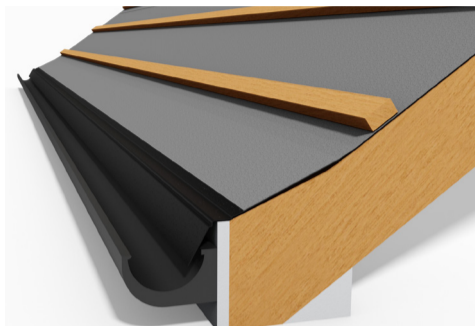

fig 1: Eaves detail
2. Lay Danelaw LR120TT printed side facing outwards, parallel to the eaves with the bottom edge overlapping the support tray (fig. 1) or 5U membrane by 150mm. The edge of the Danelaw LR120TT roof tile underlay should not be exposed to UV once the first course of tiles or slates are installed.